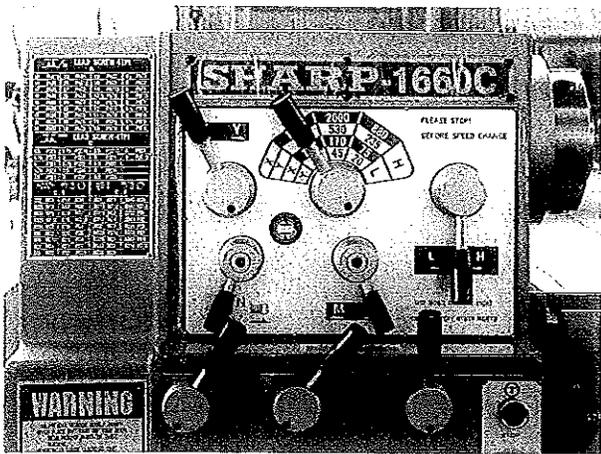

Figure 1
- b. If the problem is not in the spindle continue by engaging one control at a time until the problem is found. ( **Figure 1** )